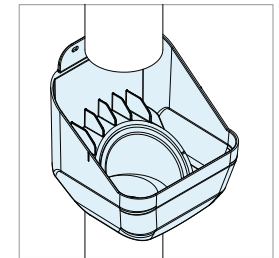

Figure 3
4. Insert your Leaf Eater Advanced rain head by sliding it up behind the top section of downpipe and then down into position. The rain head outlet pipe should be slid firmly into the bottom downpipe until it can be pushed no further (Figure 3).